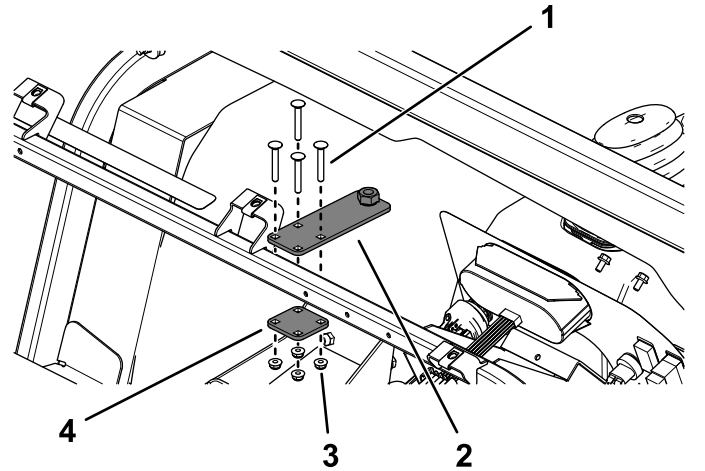

Figure 36
2. Install the adjuster plate and back plate to the dash-support tube using the 4 carriage bolts (1/4 x 1-3/4 inches) and flange nuts (1/4 inch) as shown in Figure 36.